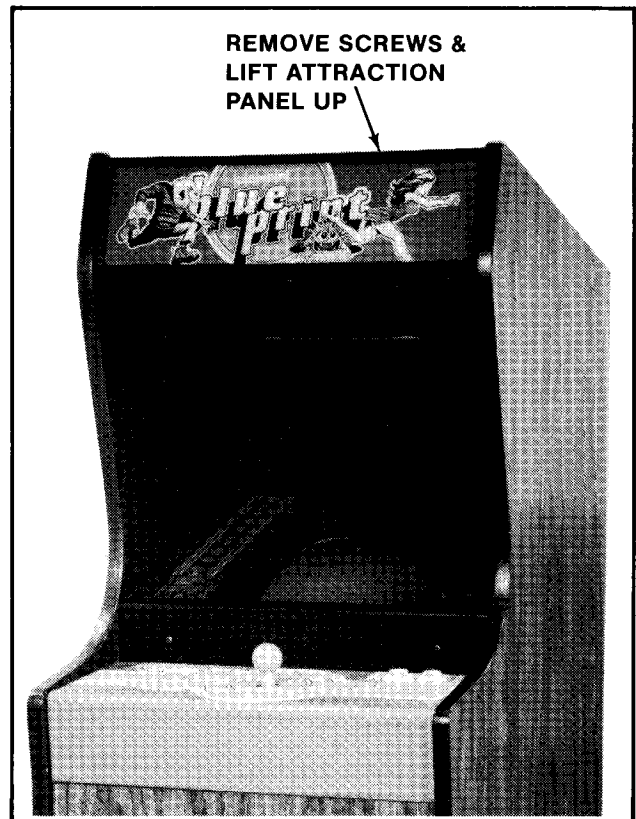

Figure 4-17 Opening the Attraction Panel — Mini
2. **MINI MODEL.** See Figure 4-17.